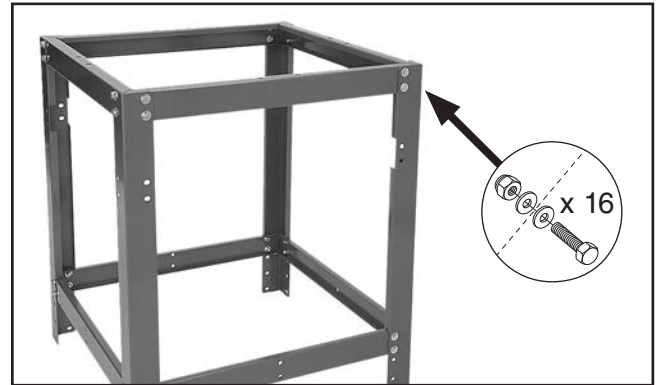

Figure 11. Upper braces attached to stand assembly.
2. Attach the upper stand braces to the top of the assembly from **Step 1**, using (16) $\frac{3}{8}$ "-16 x $\frac{3}{4}$ " hex bolts, (32) $\frac{3}{8}$ " flat washers, and (16) $\frac{3}{8}$ "-16 lock nuts, as shown in **Figure 11**.